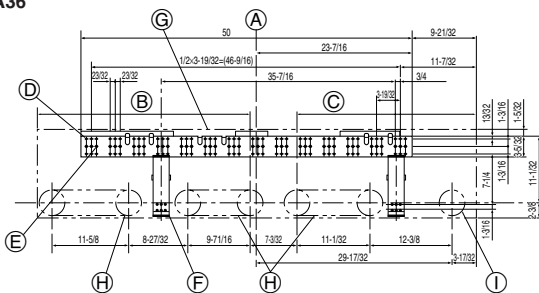

Fig. 3-2
⑦ - ⑨ are stored in a cut-out section of the packing material (styrofoam).
3.2. Installing the wall mounting fixture (Fig. 3-2)